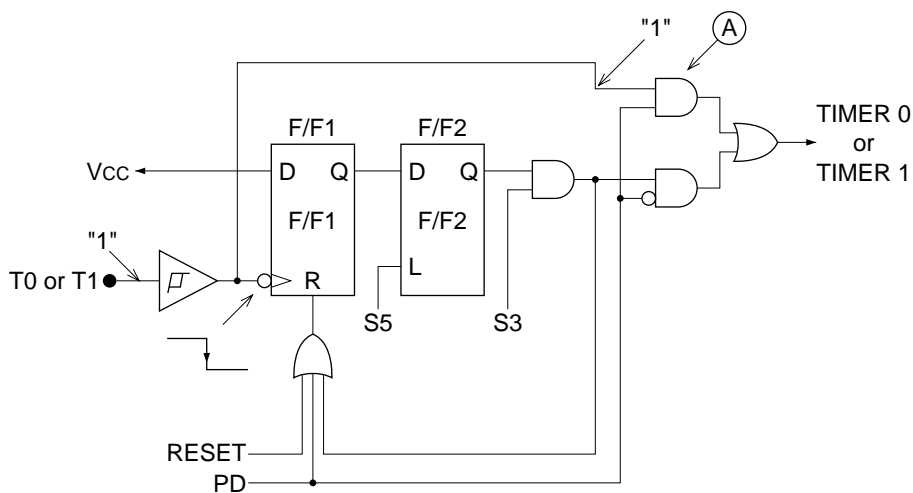

Figure 4-19 T0, T1 external clock detector circuit
When timers 0 and 1 are set to external clock mode, the external clock is taken in as shown in Figure 4-19 and the power down mode can be cancelled through the overflow of the timer. If the external interrupt occurs when the T0 or T1 pin goes to “1” level and the soft power down mode (PD) is cancelled, the gate output (A) changes from “1” level to “0” level and the counter is incremented by 1.
If the above conditions all are established, the software power down mode cannot be set. This is because the AND output, shown as (A) of Fig. 4-19, becomes "1" when the software power down mode is set and timer interrupt is generated.